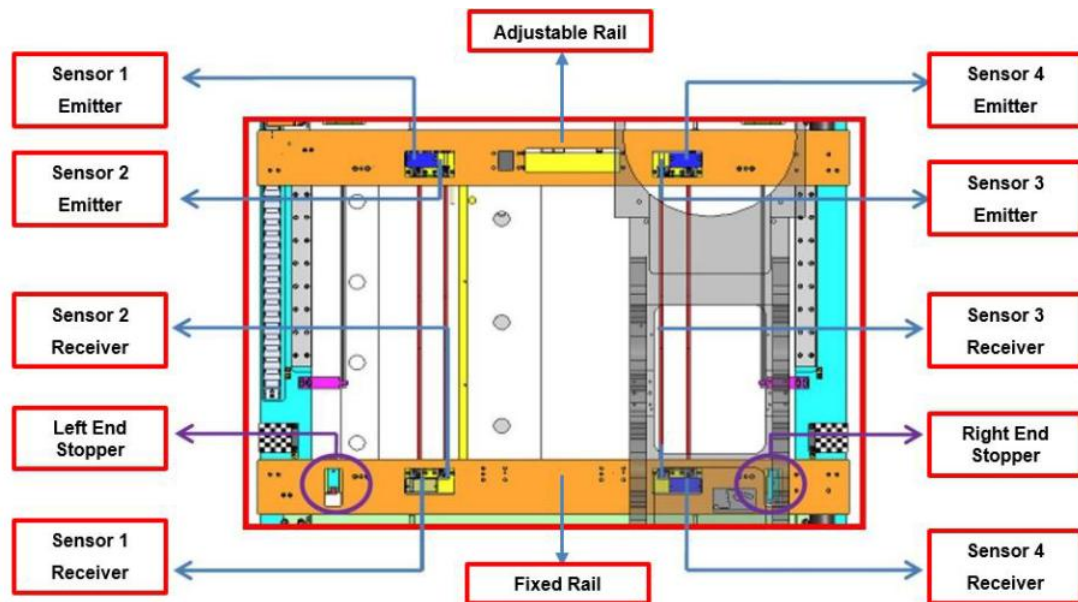

Figure 1 Optical PIP Sensor Location (Graphic)
1. Locate identical Optical PIP Sensor by refer to Figure 1.